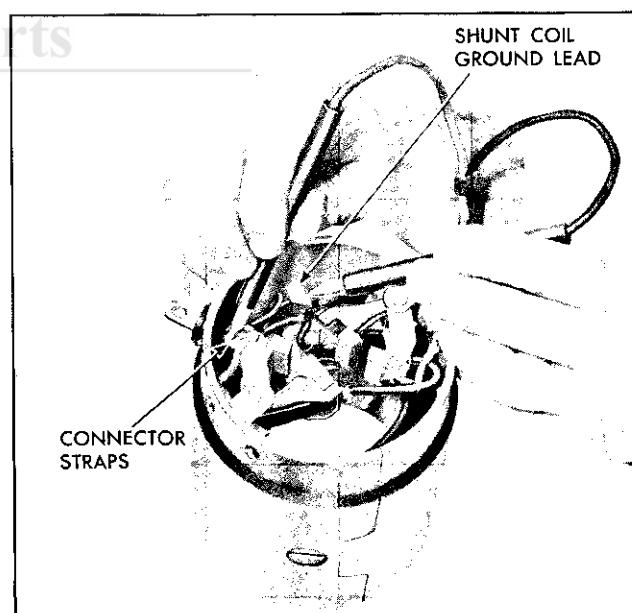

Fig. 6E-6 Testing Shunt Coil For Open
2. Using a 110-volt test lamp, place one lead on the connector strap and the other on the field frame (Fig. 6E-5). Disconnect the shunt coils ground before check is made. If lamp lights, the field coils are grounded and defective coils must be repaired or replaced.